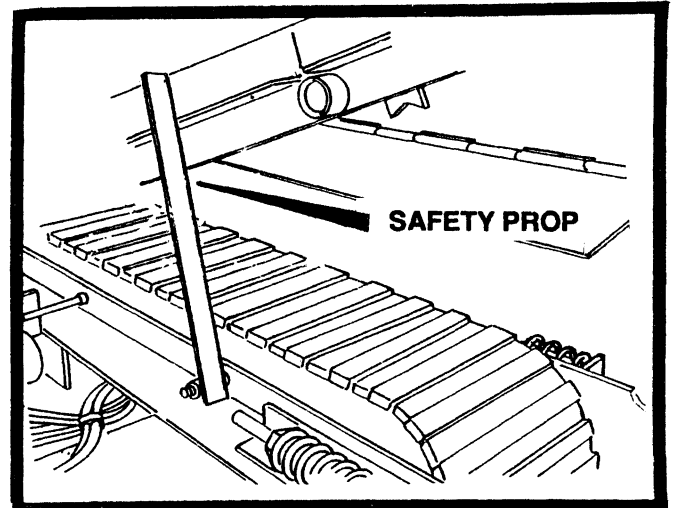

FIGURE 38
3. IMMEDIATELY AFTER RAISING FEEDERS, PLACE THE SAFETY PROP IN POSITION. See Figures 38 and 39.